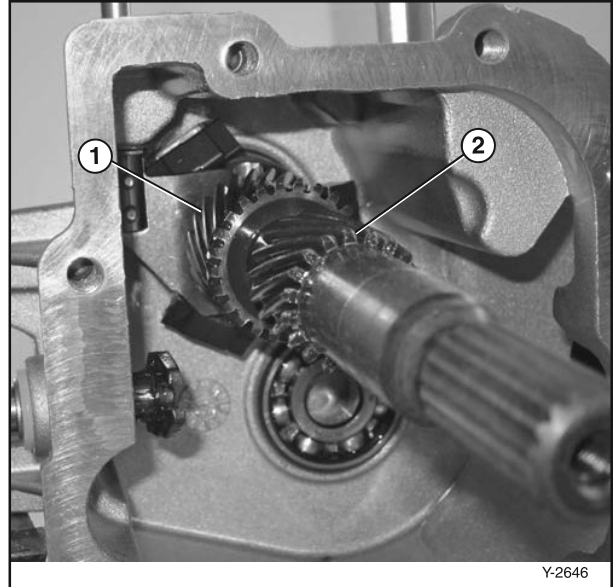

Figure 6-55
2. Install the input shaft (Figure 6-55, (2)) into case and make sure the bracket for the governor shaft (Figure 6-55, (1)) is in the groove on the input shaft. Rotate the governor shaft in while installing the input shaft.